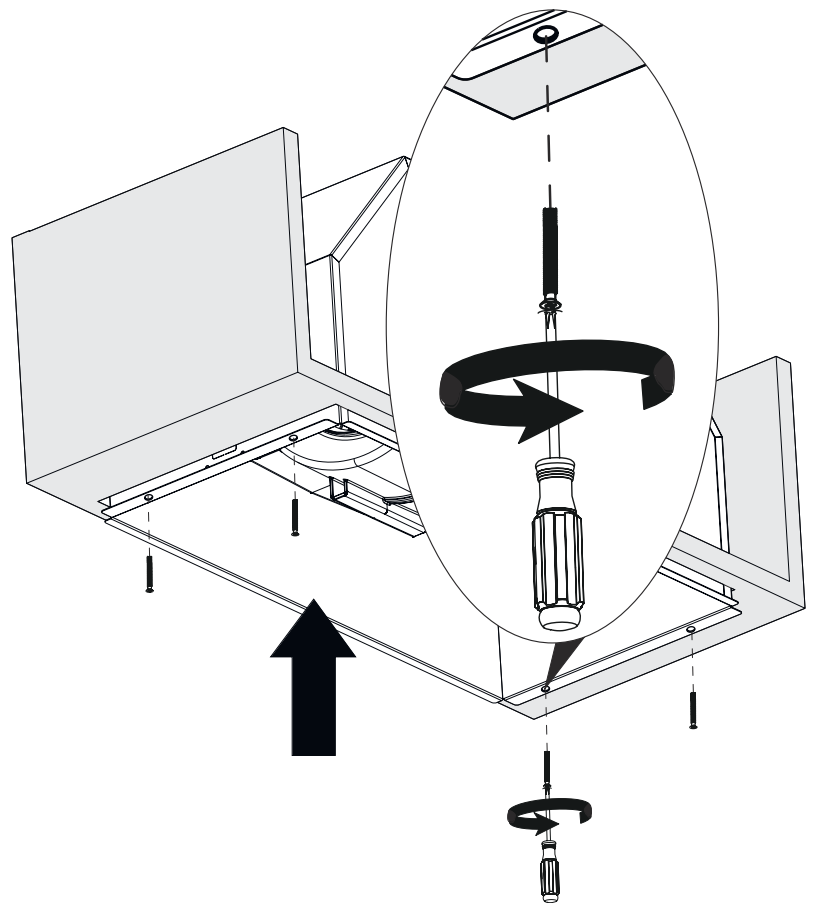

Fig. 17
- 6.** → After drilling the mounting holes with a $\varnothing 3$ mm drill, secure the product with 4 mounting screws. (Fig. 17).